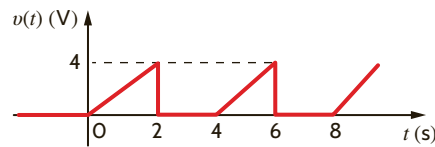

Figure E9.14
**E9.14** Compute the rms value of the voltage waveform shown in Fig. E9.14.